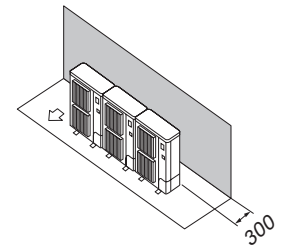

Fig. 4-12
- ① Obstacles at rear only (Fig. 4-12)